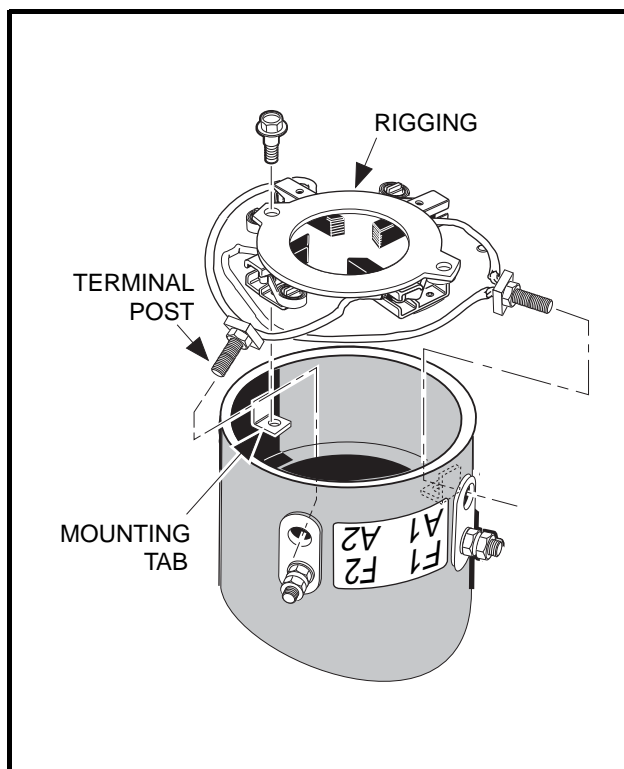

Figure 16-11 Brush Installation
- 2.1. With brush rigging facing down and held slightly above stator shell, insert the two terminal posts through insulators in stator shell wall at the A1 and A2 positions. Insert brush holder screws through the holes in the brush rigging and into the threaded holes in the mounting bracket (**Figure 16-11, Page 16-11**). Tighten the screws to 20 in-lb (2.3 N·m).